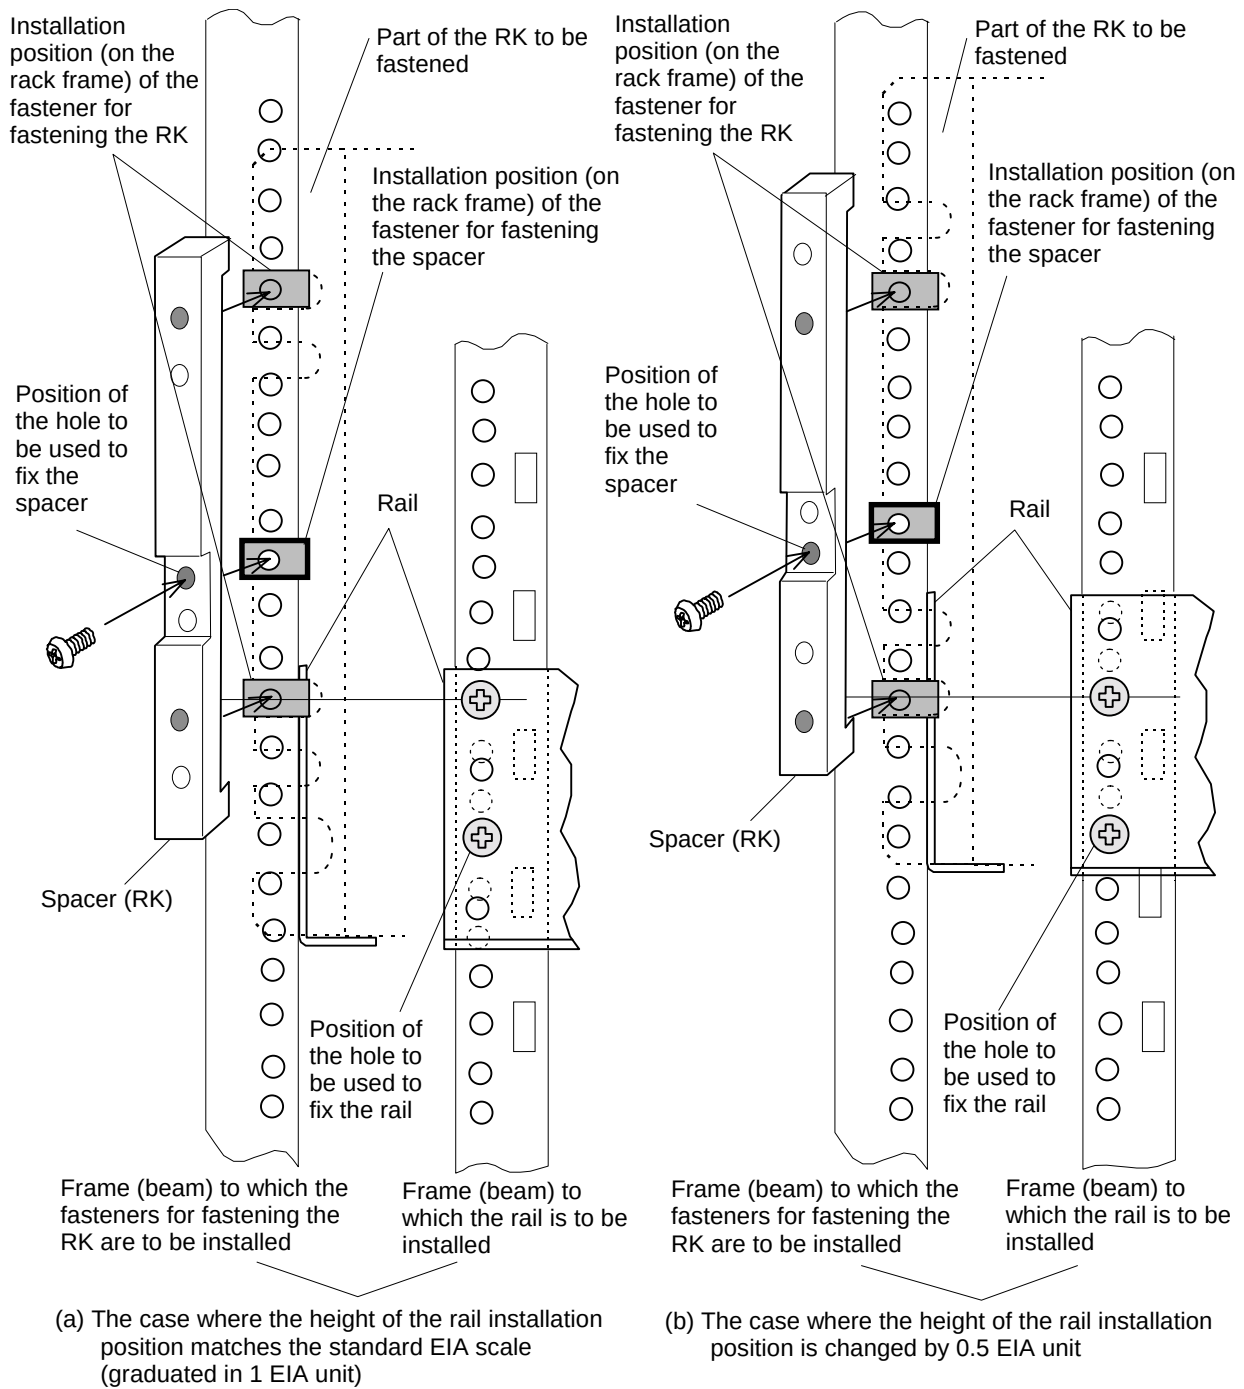

**Figure 8.1.5 Installation Positions of Fasteners and Relation with Rails
Install the fasteners and spacers on the front side of the rack frame in order to fasten the RK/ RKA to be mounted on the rack frame.(Refer to Figure 8.1.5 and 8.1.6)
- Fit the three fasteners to each of the right and left beams on the front side of the rack frame referring to Figures 8.1.5 and 8.1.6.
- Fix the spacer with binding screws (M5×32) at the position specified by the fasteners referring to Figures 8.1.5 and 8.1.6. The spacers for the RK and for the RKA are different from each other. Install the spacer which suits the subsystem to be mounted.